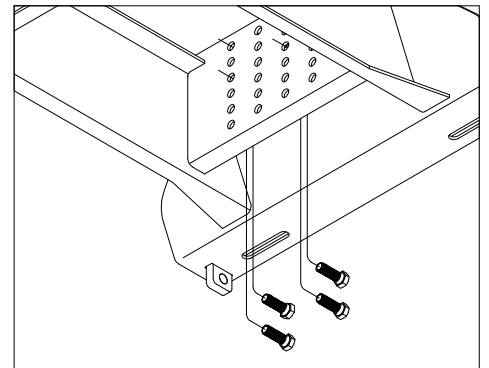

Figure A2: View under base.
2. Locate both pivot arms, eight 1/2" cap screws, eight 1/2" split lock washers, and eight 1/2" nuts. Identify the mounting holes needed to mount the arms in their optimal location. Pass four 1/2" cap screws through the bottom of the base into the bolt plate, as shown in Figure A2.